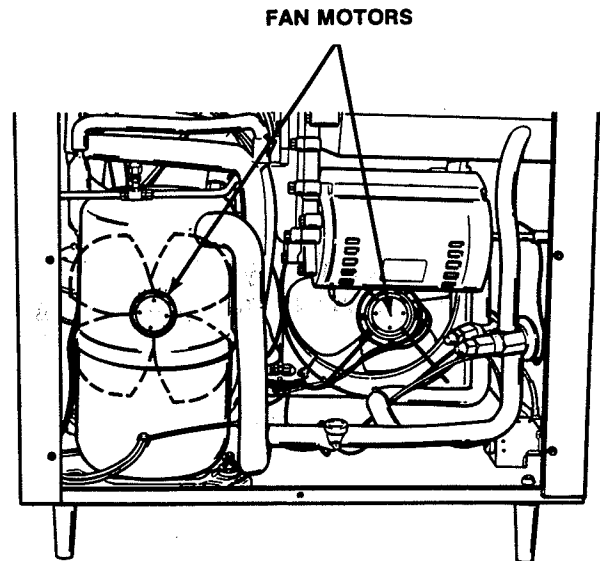

Figure 58. Fan Motor Removal
4. Remove the fan motor through the side of the freezer (Fig. 58).